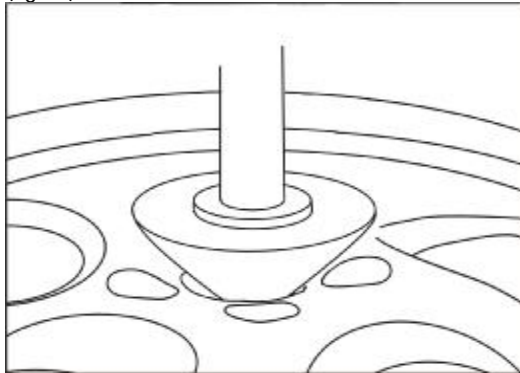
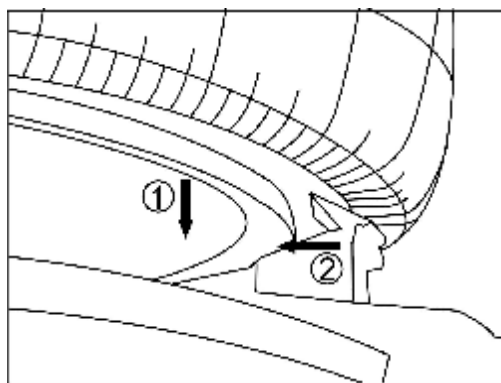

Fig.28
Fig.29
- I Use the cone to simple operation of outward clamping. Open the jaws outward(2-3cm away from periphery of the rim) and place the wheel on the turntable. Draw out the back swivel arm., fit and aim the cone at the central hole of the wheel (fig.28), press down the control lever to keep the rim close to the jaws, and depress pedal “+” to clamp it (fig.29), remove the cone.